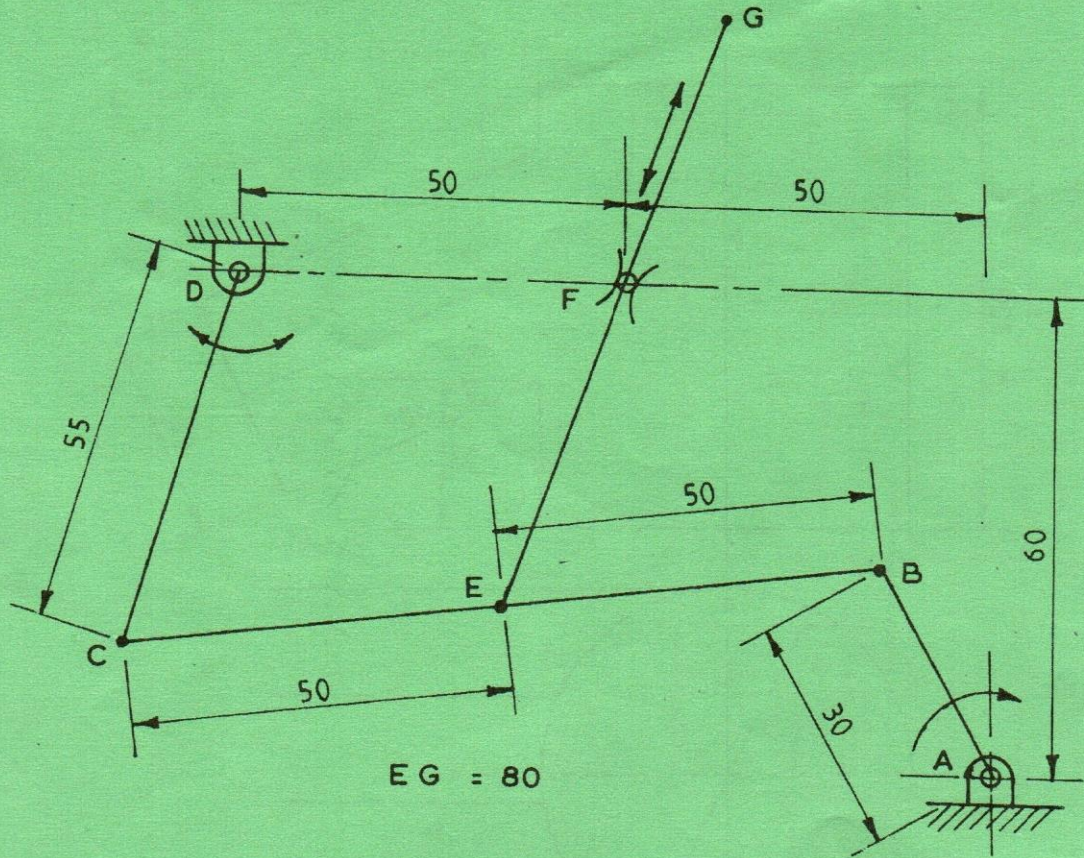

Fig. 2
2. Figure 2 shows a link mechanism pivoted at A and D and pin jointed at C, E and B. The link EG is free to slide through the swivelling guide F at all times. Plot the paths traced by point E and G for one revolution of crank AB. (20 marks)